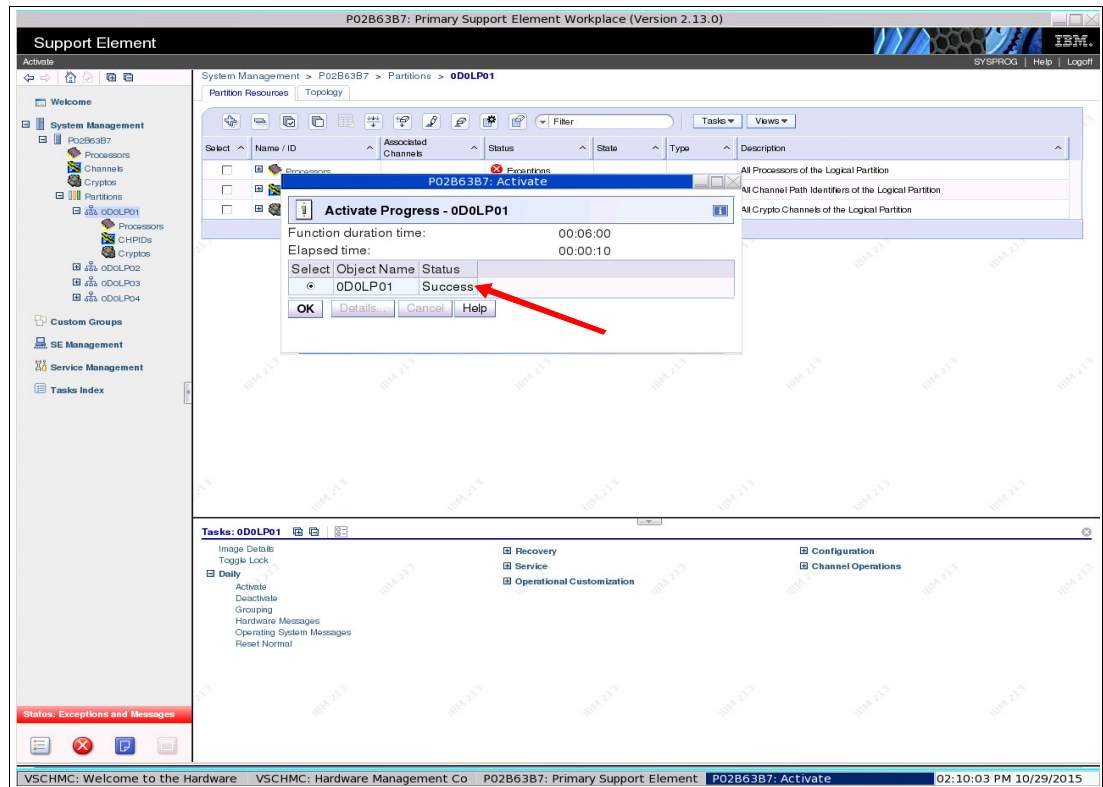

Figure 5-14 Successful logical partition activation
3. Upon successful activation, the status changes to Success, as shown in Figure 5-14. We select **OK** to close the window.